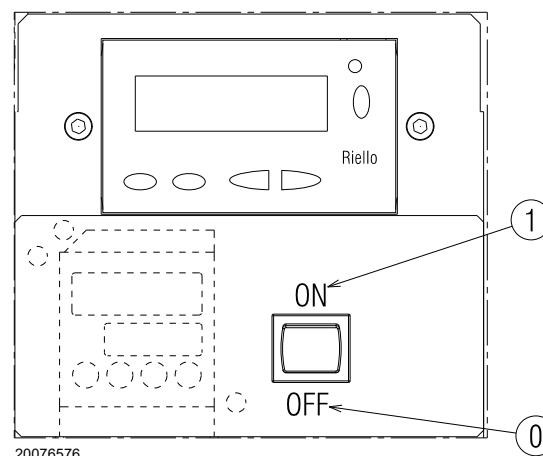

Fig. 26
Close the thermostats/pressure switches and set the switch of Fig. 26 to "1/ON".
- put the switch of Fig. 26 to "0/OFF" and wait until the flame control carries out the switching off phase;
The burner is in the heat request waiting mode, or the selector "0-1" (Fig. 26 on page 31) is at "0".